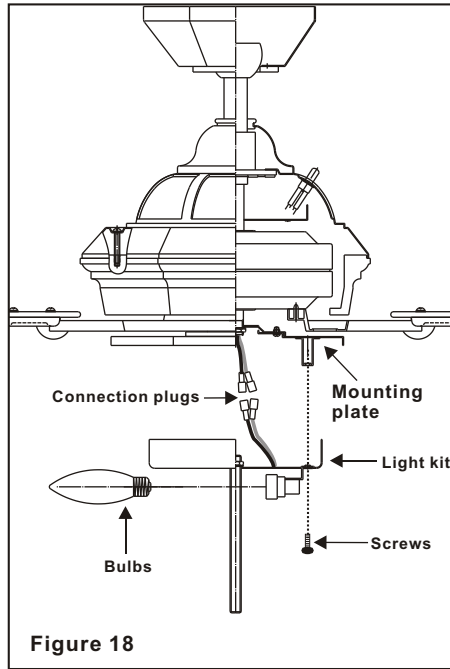

Figure 18
**Step 2.** Raise and hold the light kit close to the mounting plate and proceed to do the wire connections. Connect the white wire connectors from the light kit and fan, follow the same procedure with the black wire connectors. (Fig. 18)
**Step 3.** Tuck connections neatly into mounting plate, Place the light kit key holes over the 3 screws previously loosened from the mounting plate, turn light kit until it locks in place at the narrow section of the key holes. Secure by tightening the 3 screws previously loosened. (Fig. 18)
**Step 4.** Install 3 x 40W (Max.) candelabra bulbs (included). (Fig. 18)